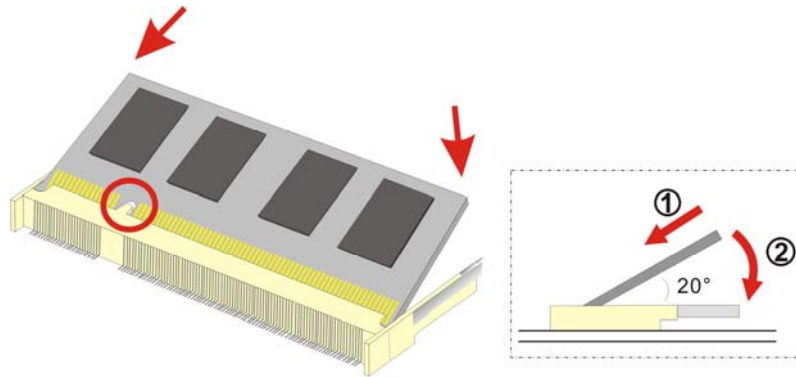

Figure 5-4: DDR SO-DIMM Module Installation
- Step 6:** Install the new DDR memory module by pushing it into the socket at an angle (Figure 5-4).
- Step 7:** Gently pull the spring retainer clips of the SO-DIMM socket out and push the rear of the DDR memory module down (Figure 5-4).